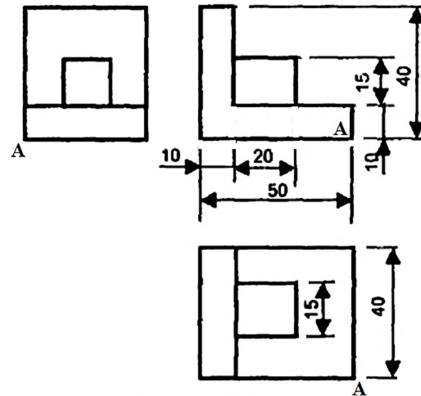

Figure Q1(b)
- a) The **Figure Q1(a)** shows isometric view of a bracket. Draw, using first angle projection, the following views: **Front, Top** and **Right side views**. Front view is indicated by the arrow A. Include all hidden details, show dimensions and projection symbol.
- b) Draw, **full size**, an **isometric** projection of the component shown in **Figure Q1(b)** below. Point **A** is to be the lowest point of the projection. Hidden details are not to be shown. **Do not** indicate dimensions.